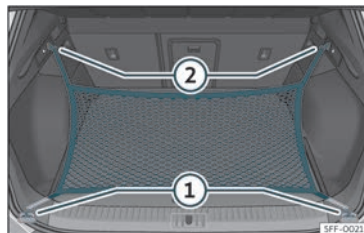

Fig. 117 In the luggage compartment: rings ① and hooks ② for attaching the net bag.
- Secure the short net hooks to the fastening rings »» Fig. 117 ① »» ⚠. The bag zip should be facing upwards.
- Secure the straps in the bag hooks ②.